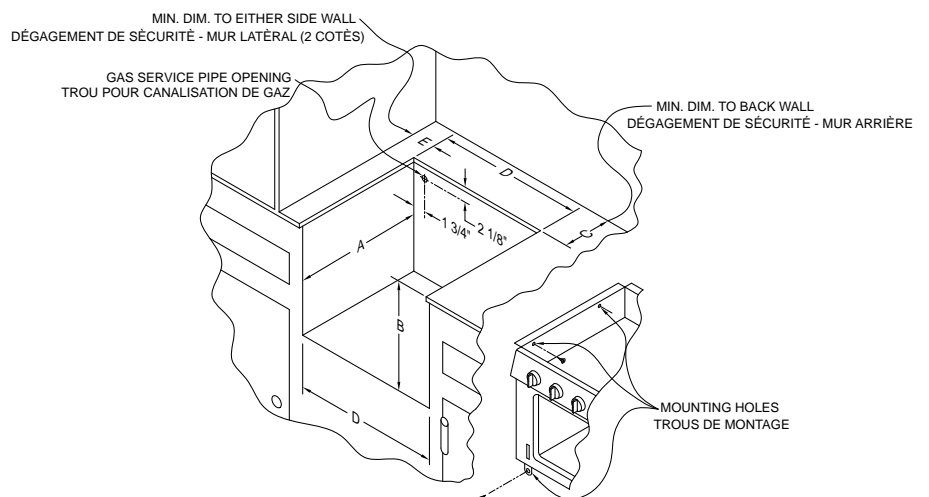

Figure 2
- Cut-out dimensions illustrated in Figure 2 are as follows:
- Fasten unit in place with provided fasteners through four holes provided in side of glass cover. Secure front frame bottom tabs with two appropriate fasteners. SEE FIGURE 2.